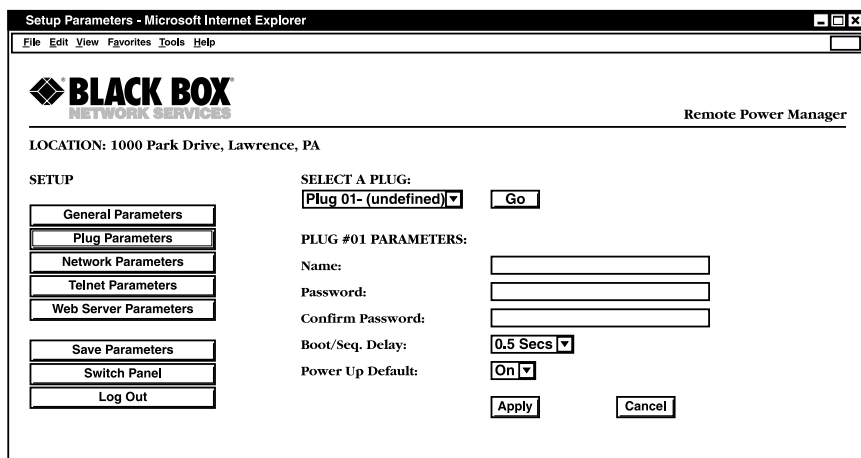

Figure 4-5. Plug Parameters menu—Web browser interface.
- Web browser interface: Click on the **Setup** button to access the configuration menus, then click on the **Plug Parameters** button. The Plug Parameters menu will appear (Figure 4-5). Once you select the appropriate menu options, click on **Apply** to save the settings or **Cancel** to start over.